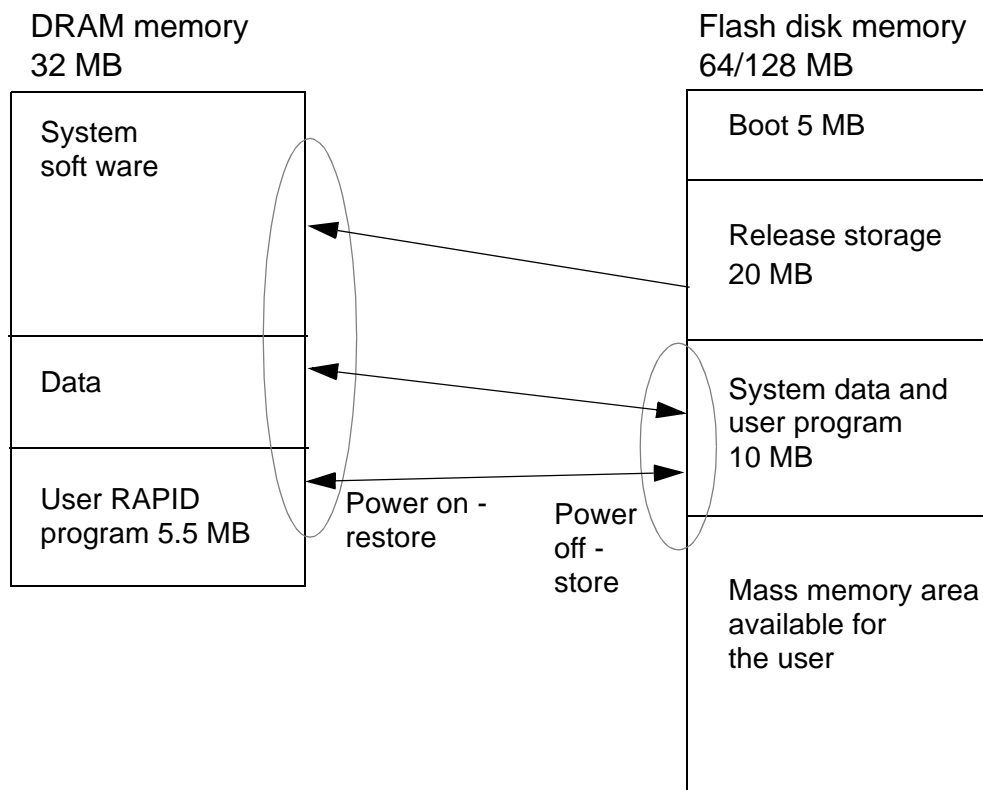

Figure 6 Available memory.
- user RAPID programs, about 5.5 MB, see Figure 6 (when installing different options, the user program memory will decrease, at most by about 0.7 MB).
The flash disk is used for backup, i.e. when a power failure occurs or at power off, all the system specific data including the user program, see Figure 6, will be stored on the flash disk and restored at power on. A backup power system (UPS) ensures the automatic storage function.